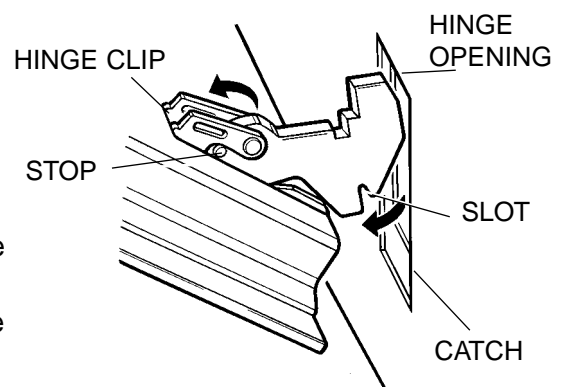

Figure 9 - removing the oven door
2. Raise one hinge clip and rotate it towards you as far as the stop (Figure 9). Repeat the procedure with the second hinge clip on the other side of the door.